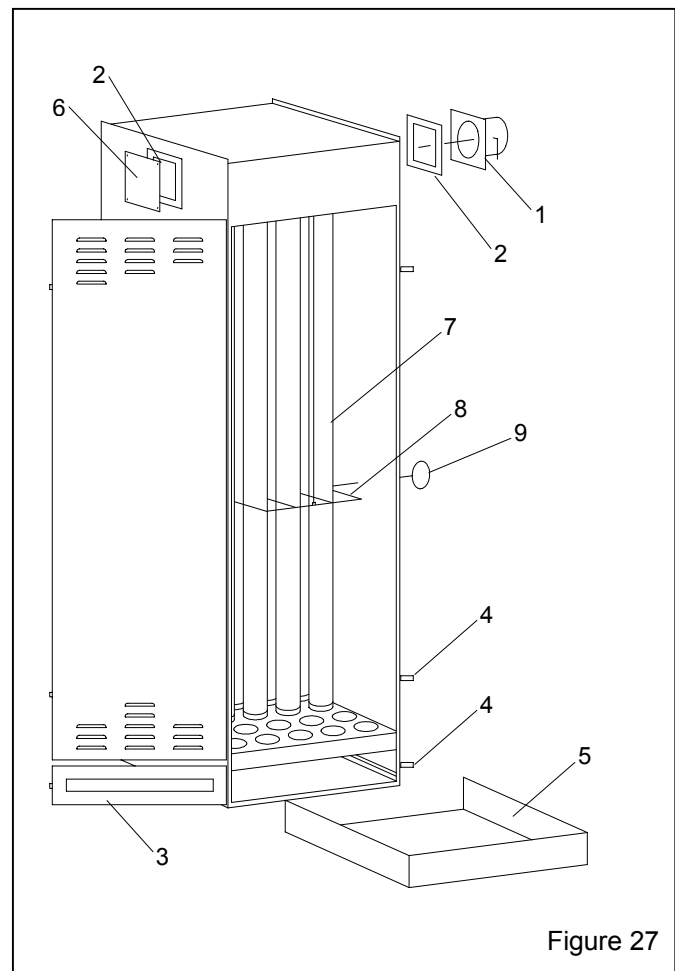

Figure 27
9.11 Dry Filter Dust Collector, Figure 27